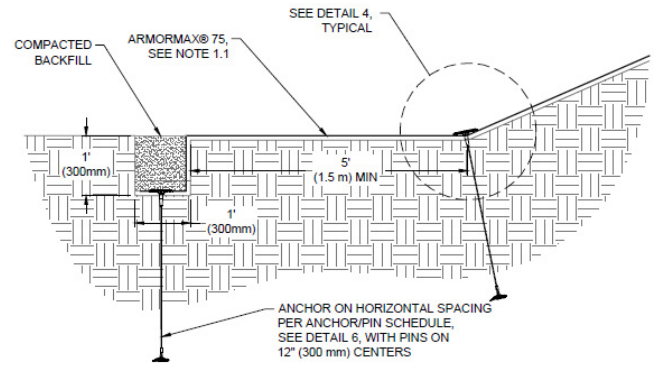

Figure 2: Toe of Slope (TOS) Trench
5. Excavate a Toe of Slope (TOS) trench 12 in x 12 in (300 mm x 300 mm) minimum at a minimum distance of 5 ft (1.5 m) from the toe of the slope. (Figure 2)